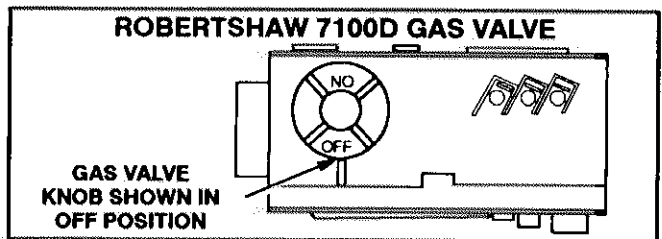

FIGURE 3
Gas Valve Operation (Figures 3 – 5)
- 6- On Robertshaw 7100D and Honeywell VR8204 gas valves, turn knob on gas valve clockwise to **OFF**. Units with Robertshaw 7200 gas valve, depress lever and move to **OFF** position. Do not force. See figures 3 through 5.